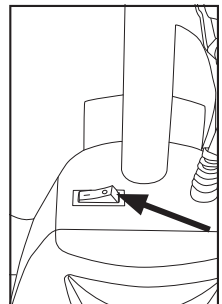

Fig. 5
1. To turn the vacuum on, push the switch located on the dust compartment to the (I) position (Fig. 5).
2. To turn the vacuum off, push the switch located on the dust compartment on the (O) position.